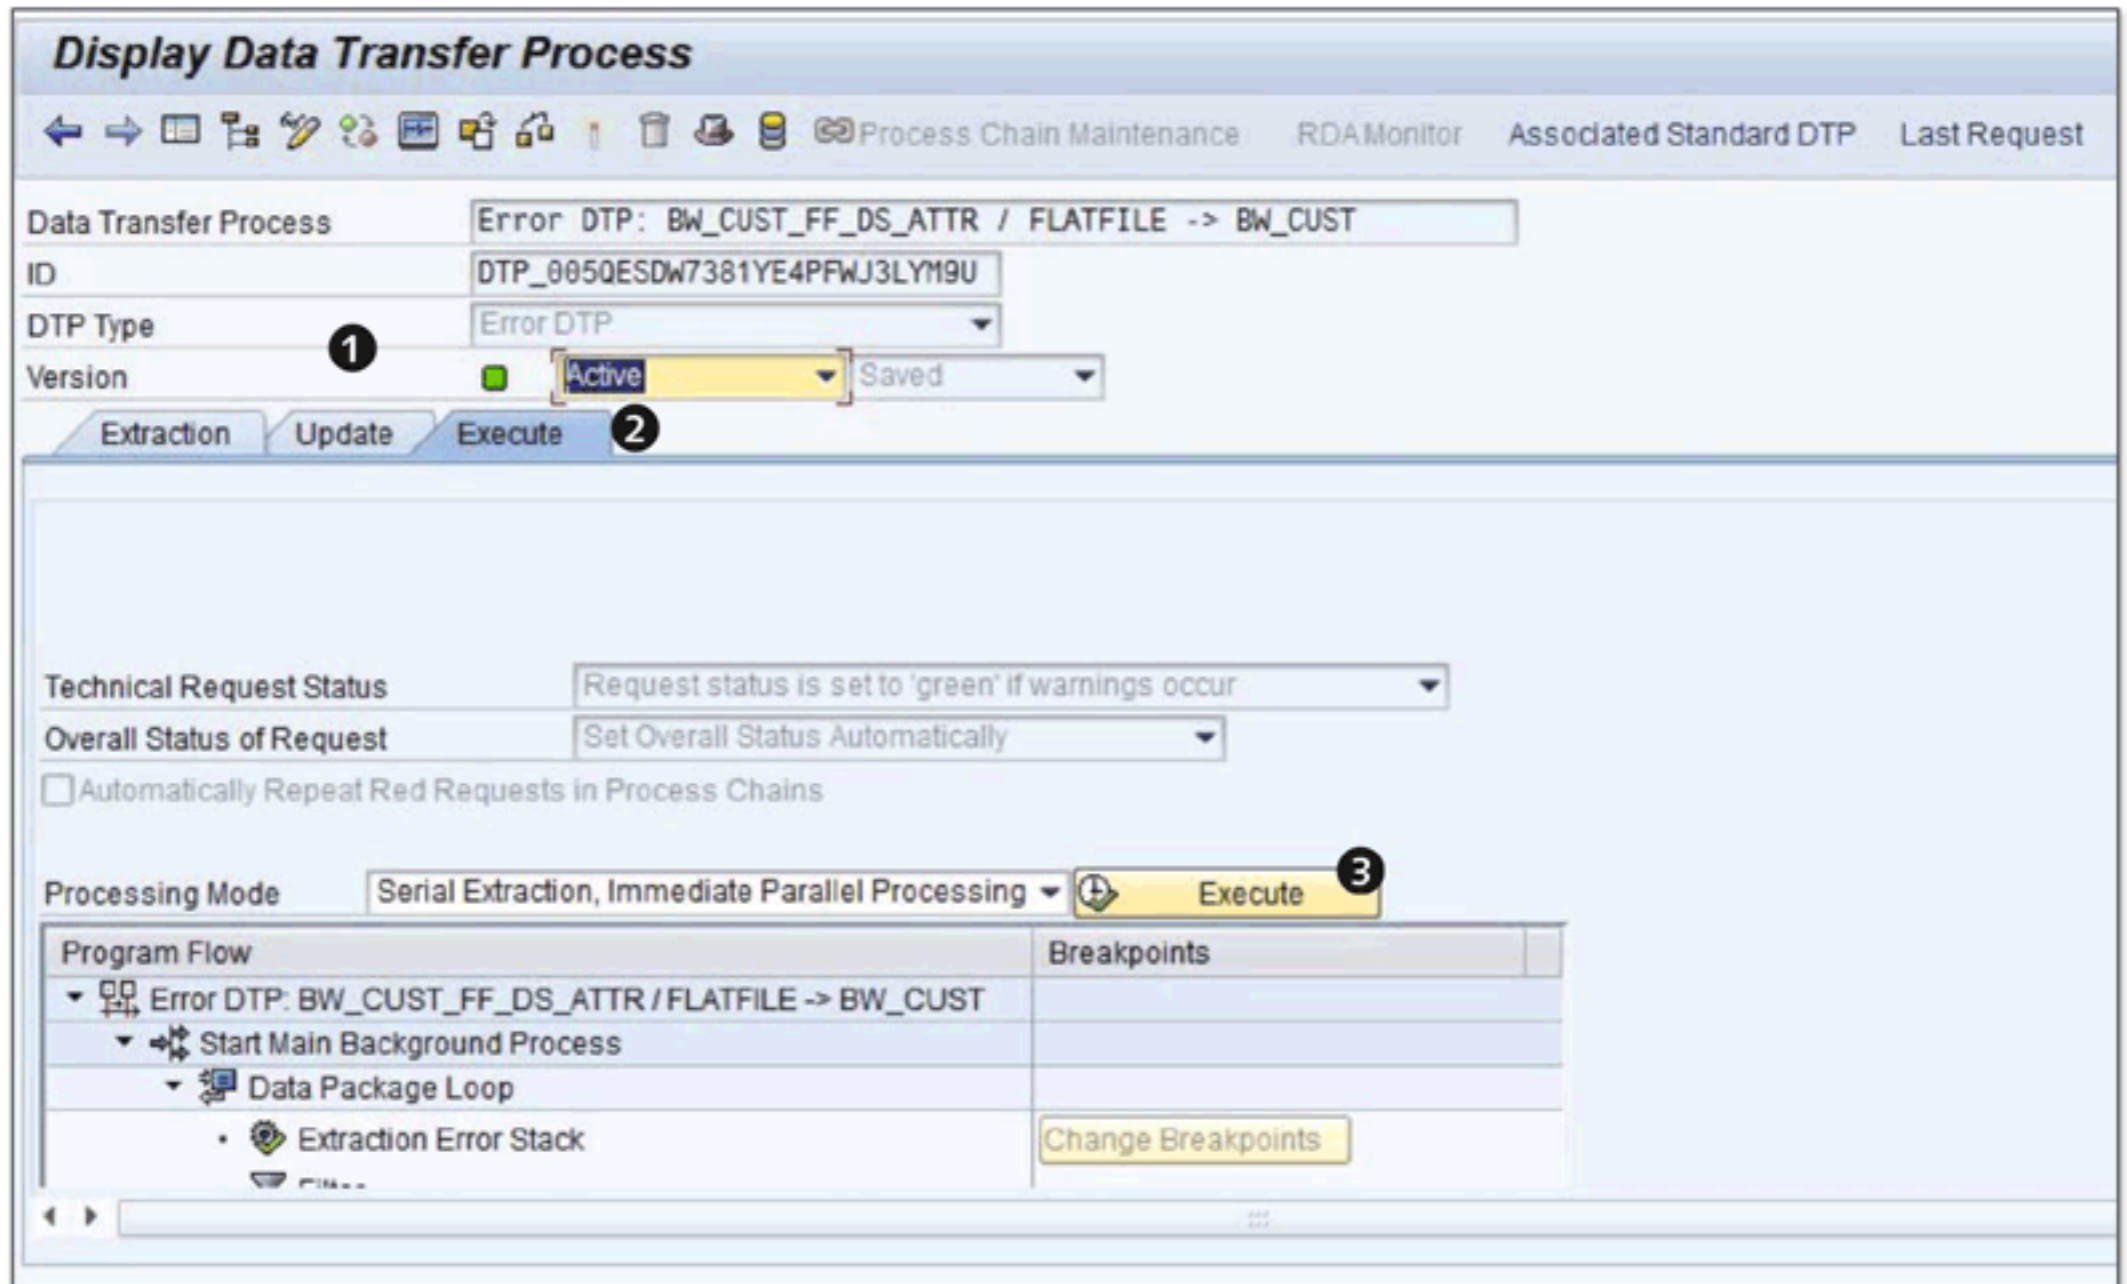

Figure 7.86 Executing Error DTP
Refer to ❶ of Figure 7.86, which shows the DTP TYPE as ERROR DTP. Select the EXECUTE tab (❷ of Figure 7.86), and start the execution of the error DTP by clicking on the EXECUTE button (❸).